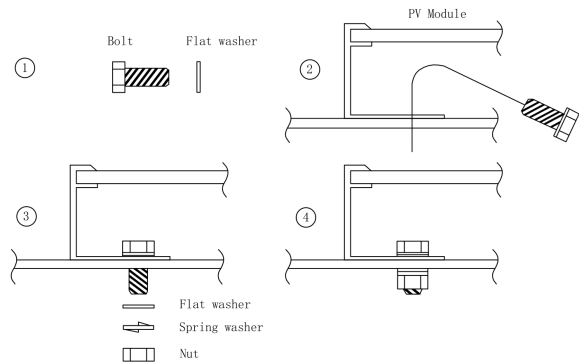

Figure 13: Securing the SPVxxx-R60DWMG-2M2C01 / SPVxxx-R60DBMG-2M2C01 modules by bolts to a rail
3. Secure each module to the rails by adding a flat washer under the bolt head and a flat and spring washer under the nut (See *Figure 13*).